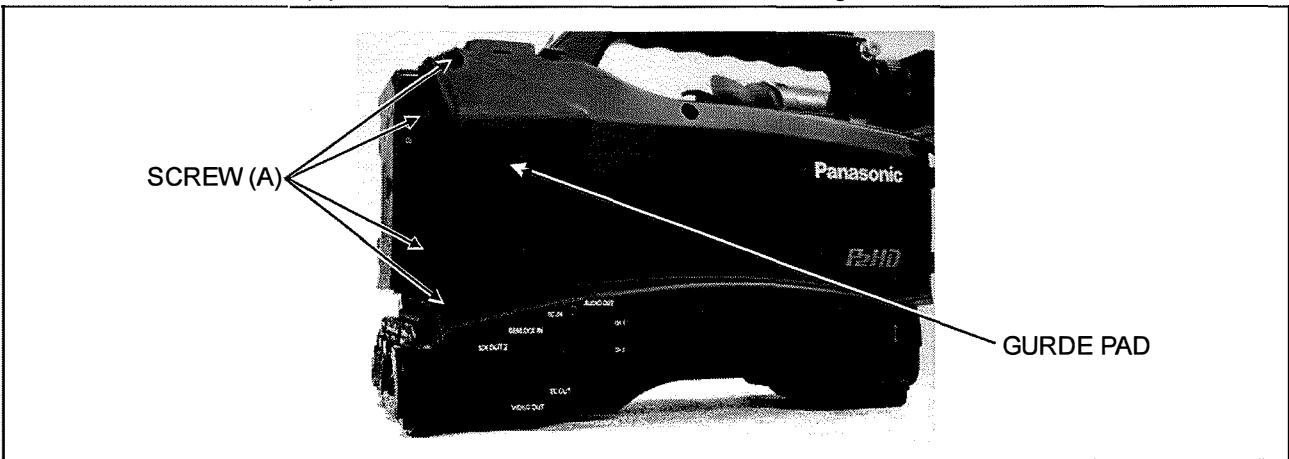

Figure 6-2-2
2. Unscrew the 4 screws (A) and remove the GURDE PAD as shown in figure 6-2-2.